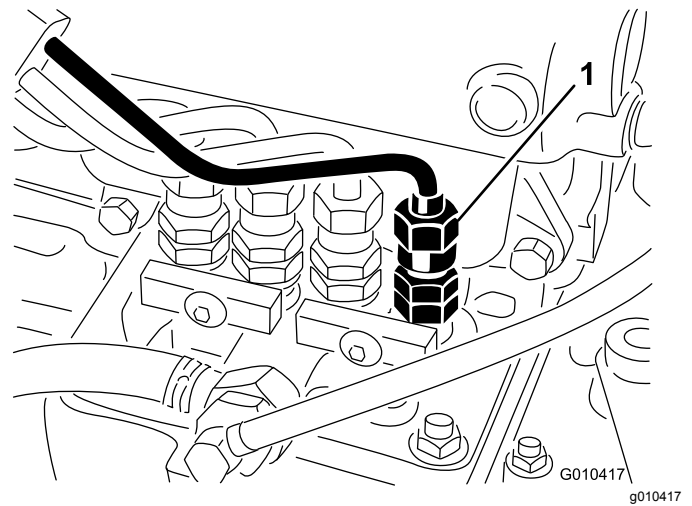

Figure 40
1. Loosen the pipe connection to the #1 injector nozzle and holder assembly at the injection pump (Figure 40).